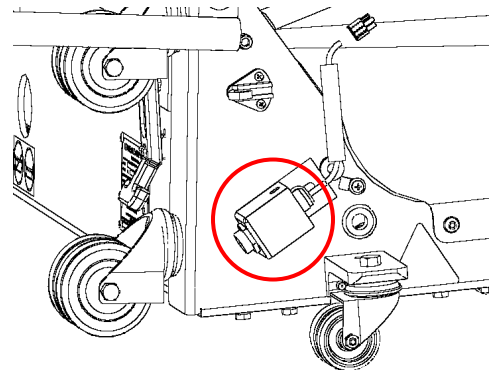

Figure 4-26
1. Locate the sensor on the bracket over the right rear caster wheel, as shown in Figure 4-26.
The sensor's sensitivity can also be adjusted. There is a small adjustment screw in the side of the sensor that controls the electronic circuitry within the sensor. This screw can be accessed through a slot in the side of the sensor bracket (see Figures 4-26 & 4-27.) Use a very small flat blade screwdriver to turn the screw counterclockwise to decrease sensitivity or clockwise to increase sensitivity. Make small adjustments, and only use this method if the previous steps do not give the desired results.